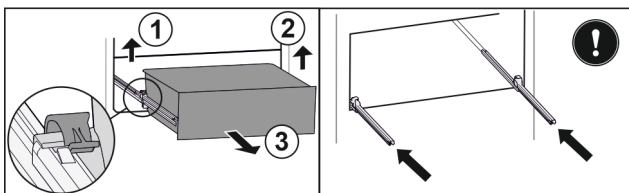

Fig. 88
- ▶ Lift left clamp and simultaneously pull drawer forwards on the left. Fig. 88 (1)
- ▶ Lift right clamp and simultaneously pull drawer forwards on the right. Fig. 88 (2)
- ▶ Remove drawer to the front. Fig. 88 (3)